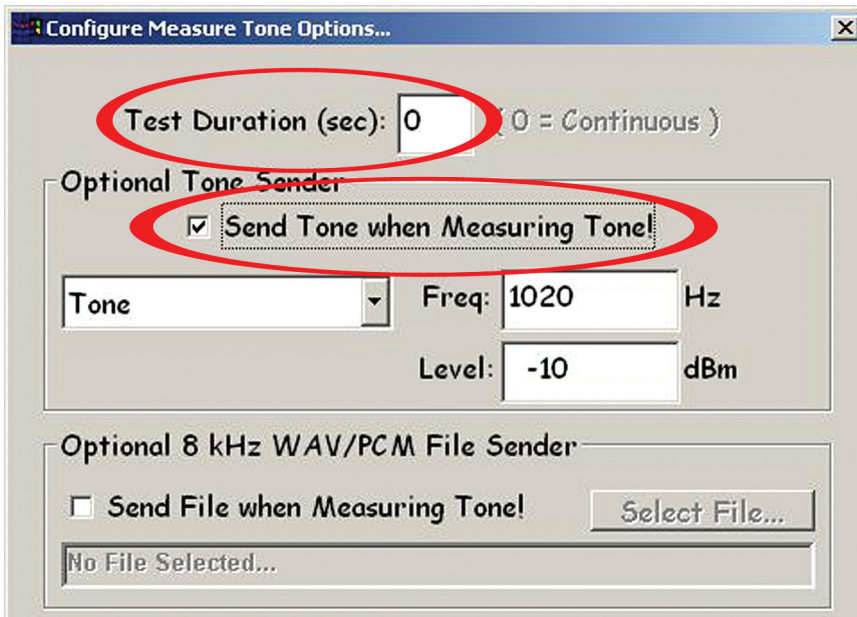

Figure 3.1.6
3. Click the configure button next to the test type selection menu. This action launches the send tone configuration window. Set the test duration to 0 seconds making the test a continuous run. Then click the check box “Send Tone when measuring Tone” (see figure 3.1.6). Click save to close and return to the main test screen.